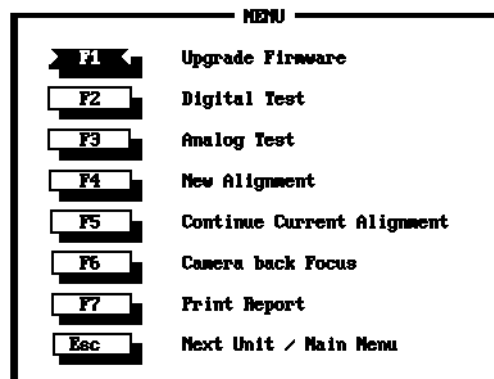

Figure 5-4. Test menu
3. Choose Start Test (press F1) to display the test menu (Figure 5-4).